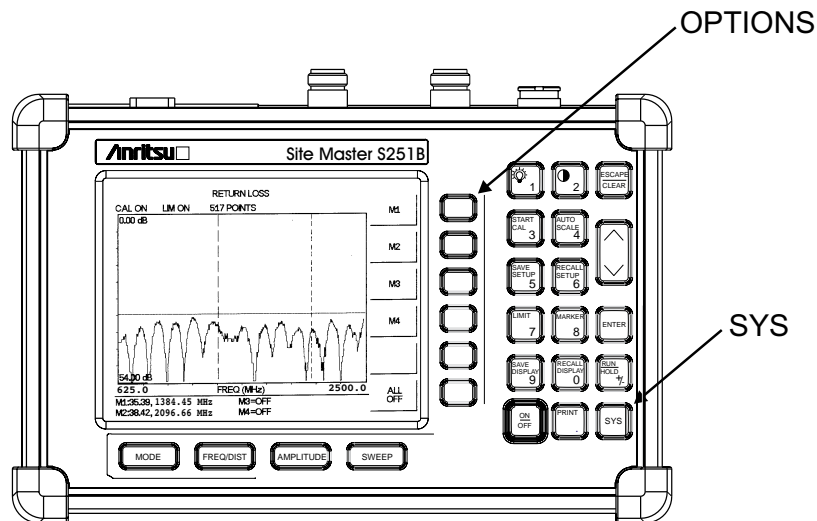

Figure 3-14. SYS Key and OPTIONS Soft Key
Step 3. Press the **SYS** key and the **OPTIONS** soft key (Figure 3-14).